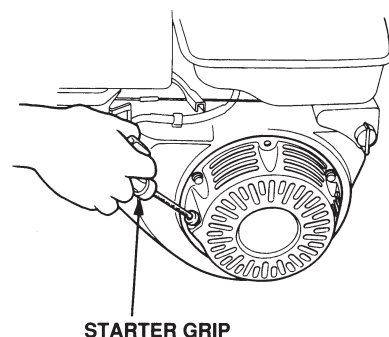

Figure 20. Starter Grip
- Pull the **starter grip** (Figure 20) lightly until you feel resistance, then pull briskly. Return the starter grip gently.